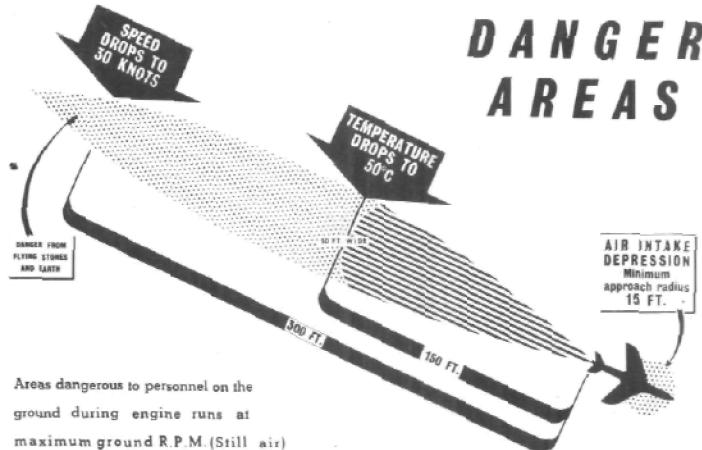

Fig.1 Engine running danger areas
- (c) The aircraft must be so positioned that the jet pipe is not directed towards any building or aircraft within a distance of 100 yards. For further details of safety precautions refer to AP 3158, Vol.2, Leaflet No. H.11 and to fig.1.
- (4) Correctly chock the main wheels and ensure that CO₂ fire extinguishers are at hand (not foam or carbon tetrachloride extinguishers).
- (5) Check that the air-intakes are clean and free of loose articles, then fit the air-intakes safety guards if aircraft is not to be flown immediately after ground testing.
- (6) Ensure that the oil content of the engine sump and accessories gearbox is correct.
- (7) Verify that the main and nose wheel shock-absorber struts appear normal.
- (8) Remove the control locks, if fitted, and examine the flying controls for full and free movement.
- (9) Ensure that all hydraulic accumulators are correctly charged.
- (10) Ensure that the flaps are up and that there is a minimum hydraulic pressure of 1000 lb/in² in the brake system. The hydraulic hand pump (Chap.4, fig.1) may be used to achieve these conditions; the hand pump handle is stowed in clips inside the engine access panel.
- (11) Ensure that the tanks contain sufficient fuel.
- (12) Ensure that all access panels are securely fastened.
- (13) Ensure that the starting team is not wearing head-dress or loose clothing, that they fully understand their responsibilities and signals to be used, and that the look-out man is positioned.
- (14) Ensure that all personnel keep clear of the air-intakes, starter exhaust and jet pipe (fig.1).
- (15) Switch ON the battery master switch and engine master switch. Press the re-light switch and listen for the pronounced crack of the two high-energy igniters firing. Switch OFF the electrical supply.
- ◆ (16) Check the anti-icing system gate valve by switching it ON and OFF and ensuring that it opens and closes in 10 seconds (approx) in each direction and that the indicator on the starboard shelf adjacent to the switch is functioning.
- (17) Load the triple-breech starter (Chap.4). After the first cartridge has been fired, the two succeeding cartridges are selected automatically when the starter push-switch is operated.
2. (1) If necessary, connect an external power supply to the aircraft (Chap.4, fig.1, item 17).